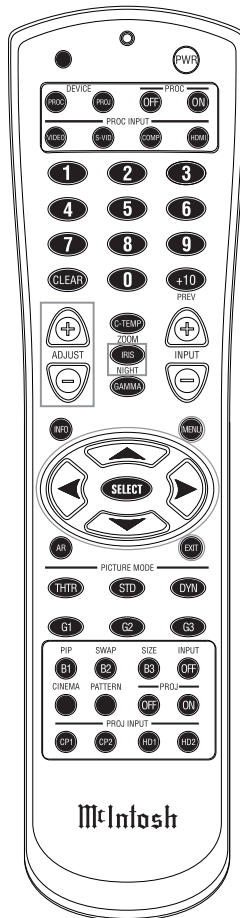

Figure 50
The selection of a menu item and the available choices/adjustments are performed by using the Navigation (◀LEFT, ▶RIGHT, ▲UP or ▼DOWN) Push-buttons along with the ENTER/SELECT Push-buttons located on the Remote Control. Refer to figure 50.
1. Press the MENU Push-button on the Remote Control. Refer to figures 50 and 51.